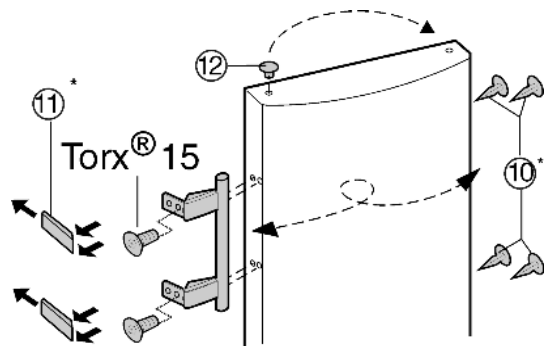

Fig. 8
- ▶ Lift the stopper *Fig. 8 (12)* out of the door bearing bush and transfer it.
- ▶ Detach door handle, stoppers *Fig. 8 (10)* and pressure plates *Fig. 8 (11)* and transfer to the opposite side.